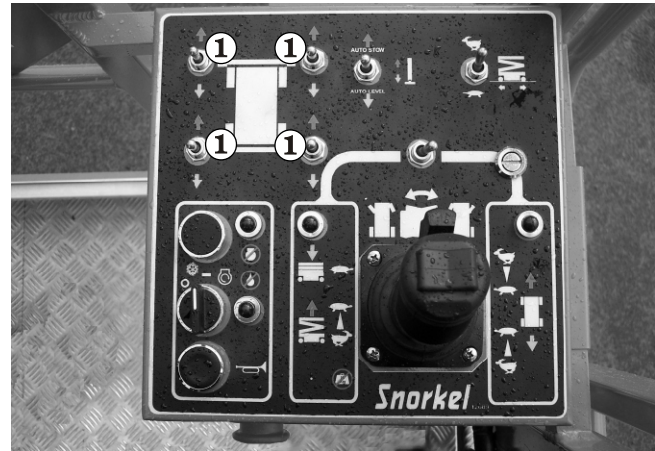
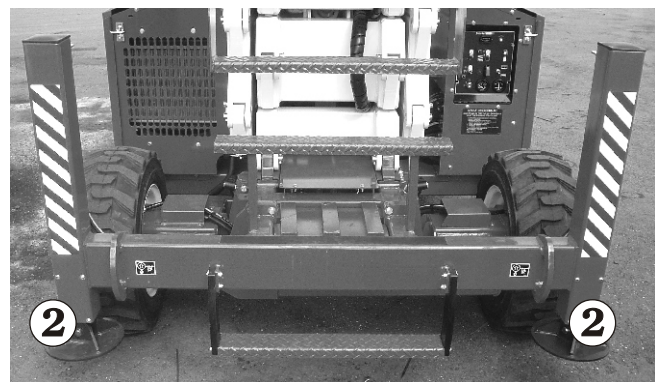

Figure 8.20
Figure 8.21
2. Pull and hold the **Stabiliser** switches ① (see Figure 8.20)backward, one (1) at a time, until all four (4) stabiliser pads ② (see Figure 8.21) contact the ground.